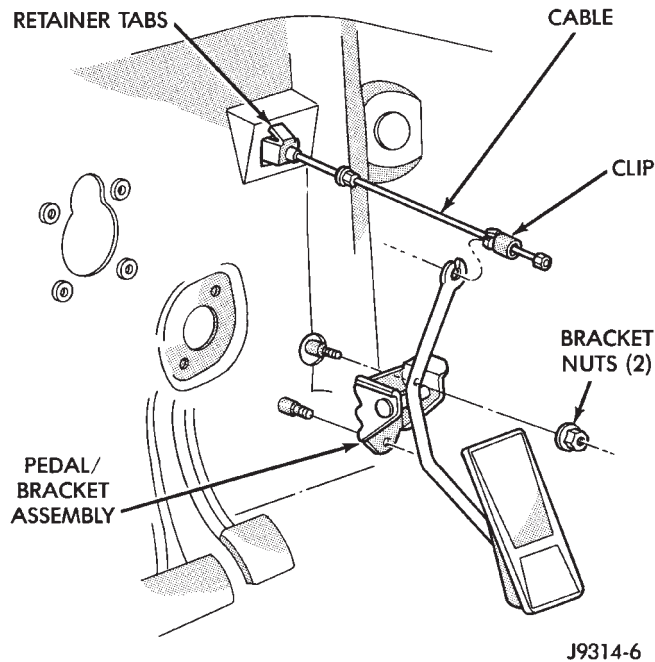

Fig. 1 Accelerator Pedal Mounting—Typical
The accelerator pedal is connected to the throttle body linkage by the throttle cable. The cable is protected by a plastic sheathing and is connected to the throttle body linkage by a ball socket. It is connected to the accelerator pedal arm by a plastic retainer (clip) (Fig. 1). This retainer (clip) snaps into the top of the accelerator pedal arm. Retainer tabs (built into the cable sheathing) (Fig. 1) fasten the cable to the dash panel.
(1) From inside the vehicle, hold up accelerator pedal. Remove plastic cable retainer (clip) and throttle cable core wire from upper end of pedal arm (Fig. 1). Plastic cable retainer (clip) snaps into pedal arm.
(2) Remove accelerator pedal bracket nuts. Remove accelerator pedal assembly (Fig. 1).
(2) Remove the cable core wire at pedal arm.
(3) From inside the vehicle, pinch both sides of the cable housing retainer tabs (Fig. 1) at the dash panel. Remove cable housing from dash panel and pull into the engine compartment.